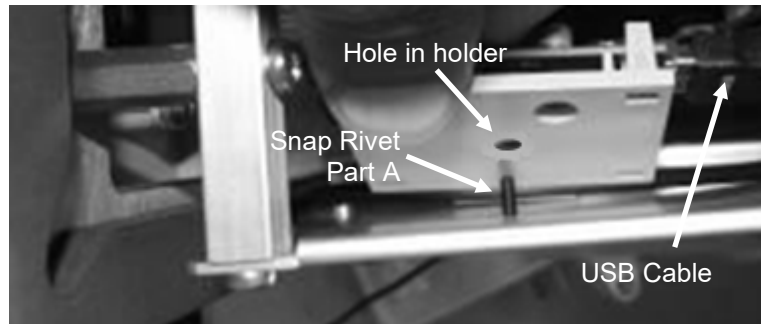

Figure 11
19. Insert Part A of the rivet through the hole in the card cage and mount the card reader adapter board holder onto the Snap Rivet Part A as shown in Figure 11.